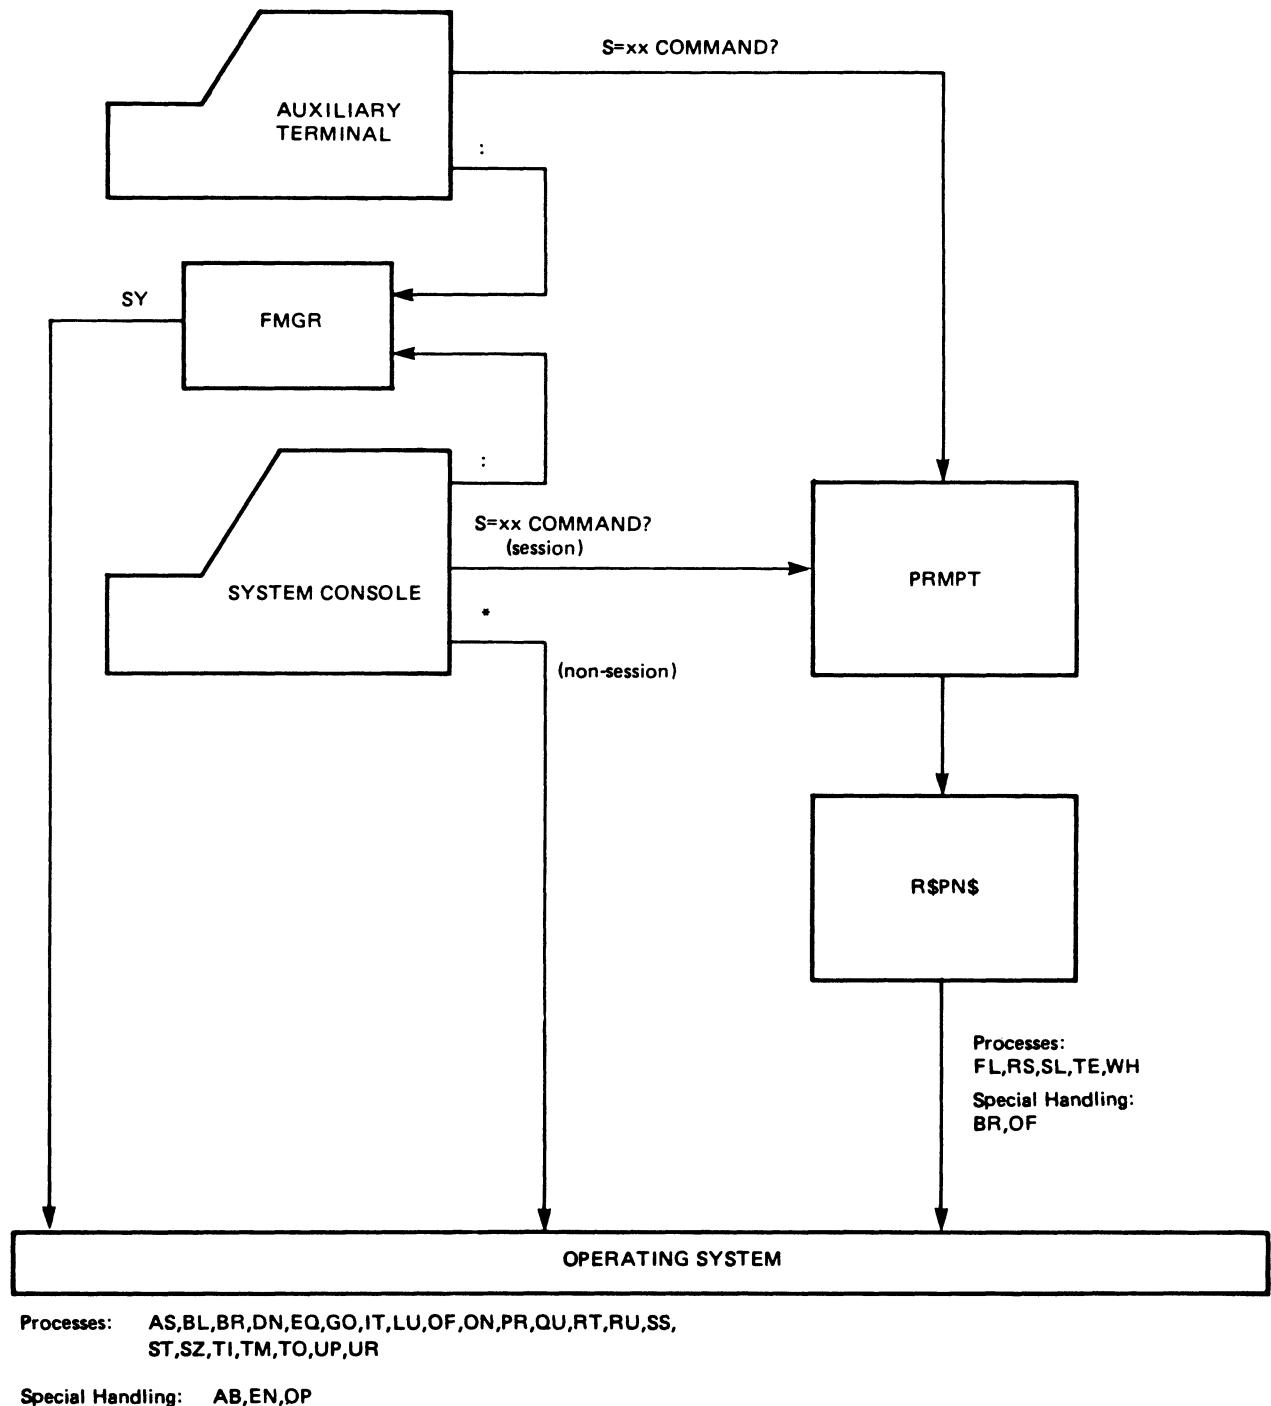

Figure 4-6. Break-Mode Command Processing Under Session Monitor
**Figures 4-6 and 4-7 summarize System and Break-Mode command processing under Session Monitor and MTM respectively. The prompts shown are:**
The following are detailed explanations of the interactive system and break-mode commands available with RTE-IVB. System Commands are handled by the operating system; break-mode commands are handled by the program R\$PN\$ (see Figures 4-6 and 4-7). The capability level required for each command is shown in a box in the upper right hand corner of the page.